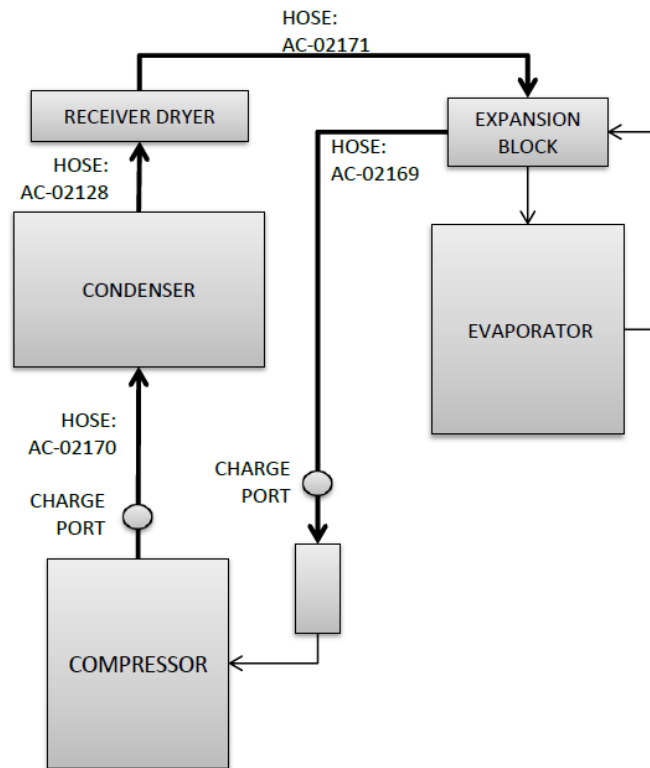

Figure 50 – Hose Layout
- B. Connect condenser, evaporator, and compressor hoses per Figure 50 below: